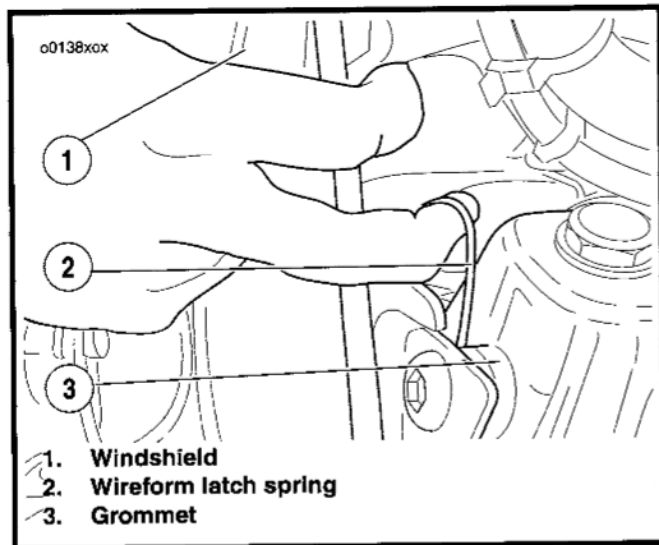

Figure 29. Softail Windshield Assembly
1. See Figure 29. Insert your fingers into the wireform latch springs at either side of the windshield and move the TOP of the windshield assembly forward, until the TOP bracket notches slide away from the grommets.
1. See Figure 29. Insert your fingers into the wireform latch springs at either side of the windshield and slide the BOTTOM windshield bracket notches onto the bottom grommets.